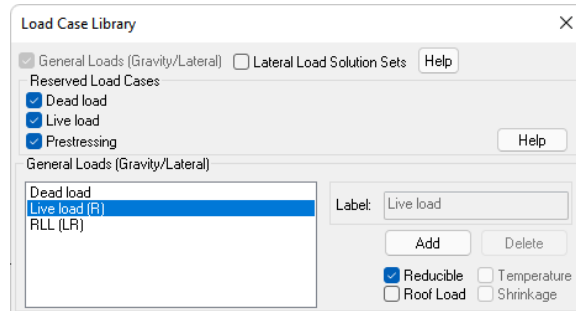

FIGURE 14-3
- In the *General/Lateral load case* window, select **Live load** and select the check box for **Reducible** as shown in **FIGURE 14-3**.